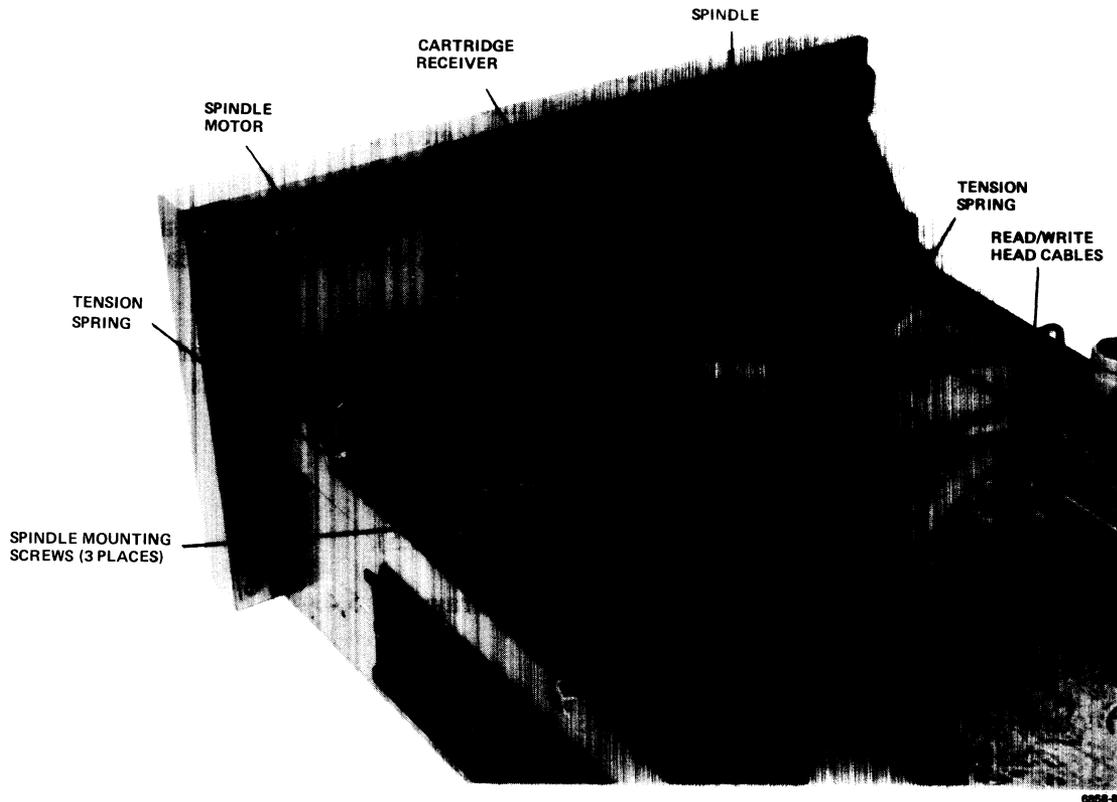

Figure 5-7 Spindle Replacement
5. If a cartridge receiver is present, remove the tension springs from the cartridge receiver (Figure 5-7) and raise the receiver as high as possible.
2. Lower the cartridge receiver and attach the tension spring (Figure 5-7).
1. Insert the spindle motor through the top of the baseplate (Figure 5-7) and attach the motor to the mounting plate with the previously removed hardware.